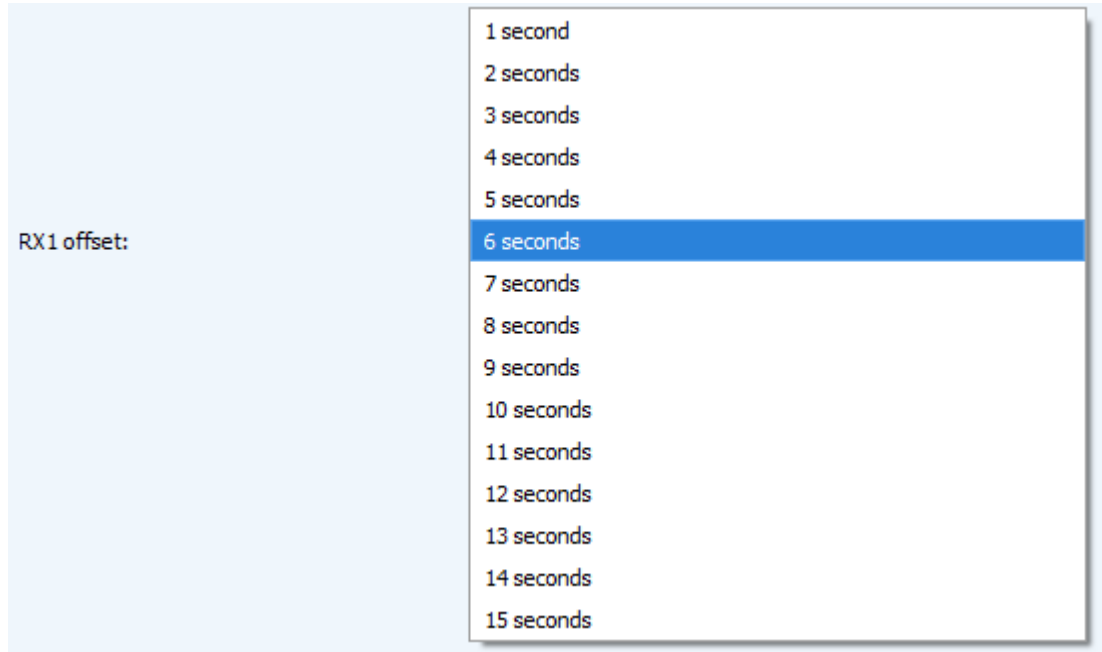

Figure 18 — Choice of the time for opening the first receiving window
3.5.2.5 «RX1 offset» (not displayed in the "Simple" mode) – specifies the time between end of packet transmission and first receiving window opening (fig. 18). The second receiving window always opens after 1 second after the first.